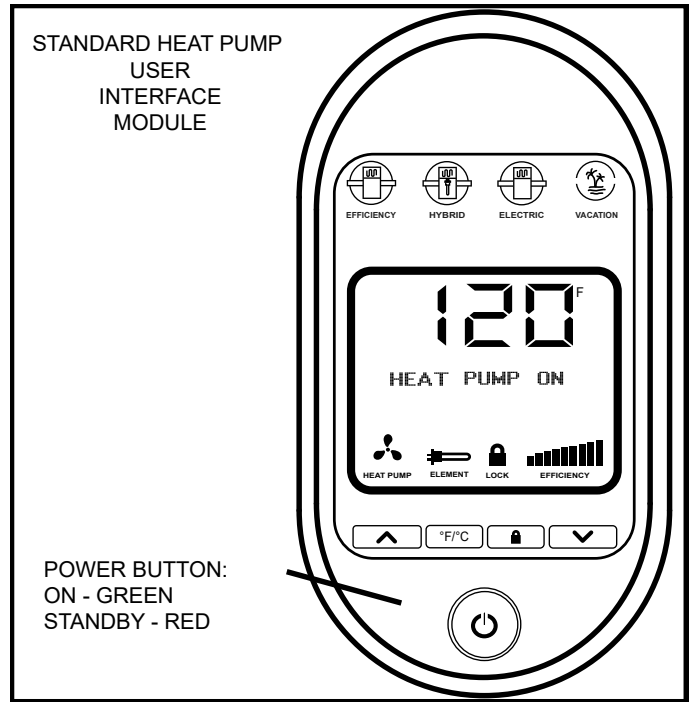

Figure 1. - 1st Generation Models
1. Press the power button on the User Interface Module (UIM) to place the water heater in Standby Mode see Figure 1. (For 2nd Generation models, skip to step 2)